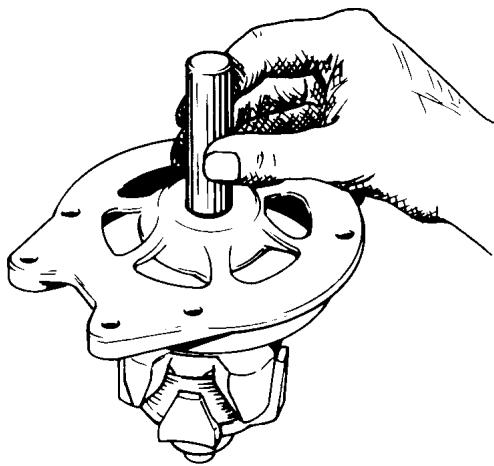

Figure 24-9. Installation of Beraring
- a. Press ball bearing into drive end head using a flat block approximately two inch square, so pressure is exerted on outer race of bearing. Install retainer plate. With snap ring and retainer cup in place on rotor shaft, use a tool that fits over shaft and against inner bearing race, and press until inner bearing race is against snap ring retainer cup. (Refer to Figure 24-9.)